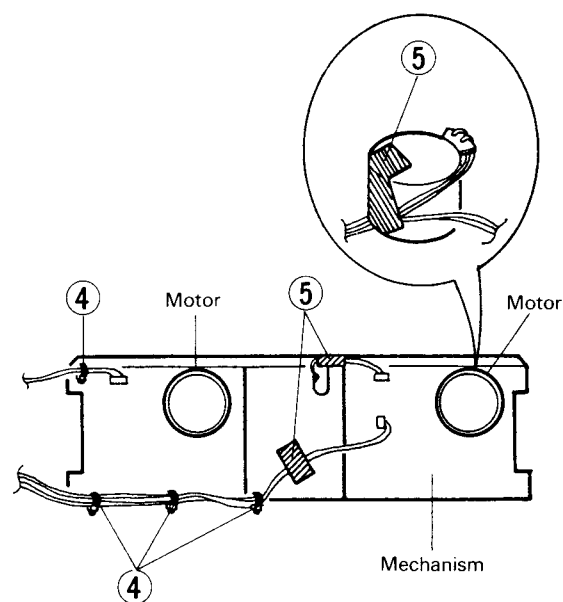

Fig. 1-2
4. Check up that all wires of motors and leaf switches are bound and secured with spacers at specific points respectively. (See Fig. 1-2 ④ and ⑤.)